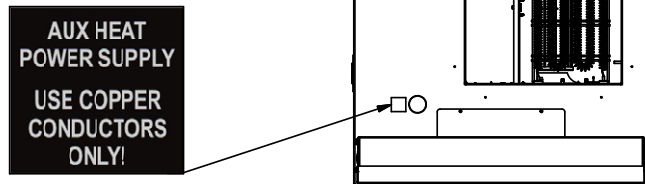

FIGURE 6
9. Remove the cap plug in the top of the unit, labeled 'AUX HEAT POWER SUPPLY.' Route the power supply wires for the heater through this hole, down to the side of the electric heater control box. See Figure 6.